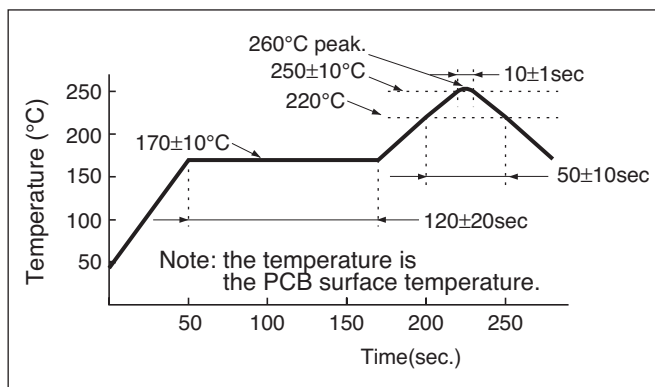

Figure 8
(1) An example of the reflow temperature profile is shown as follows (see Figure 8).